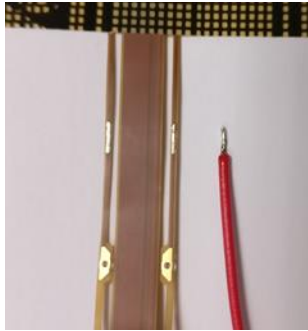

Figure 44: Solder applied to solder pad and GND/REF wire separately.
- Apply some solder to the solder pad and GND/REF wire separately. (Figure 44)